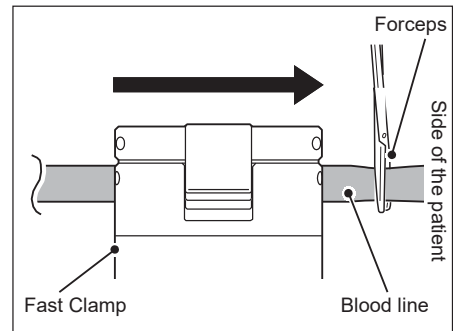

Figure 2-5
2. Clamp the blood line of the patient side of the Fast Clamp with forceps. (Figure 2-5)